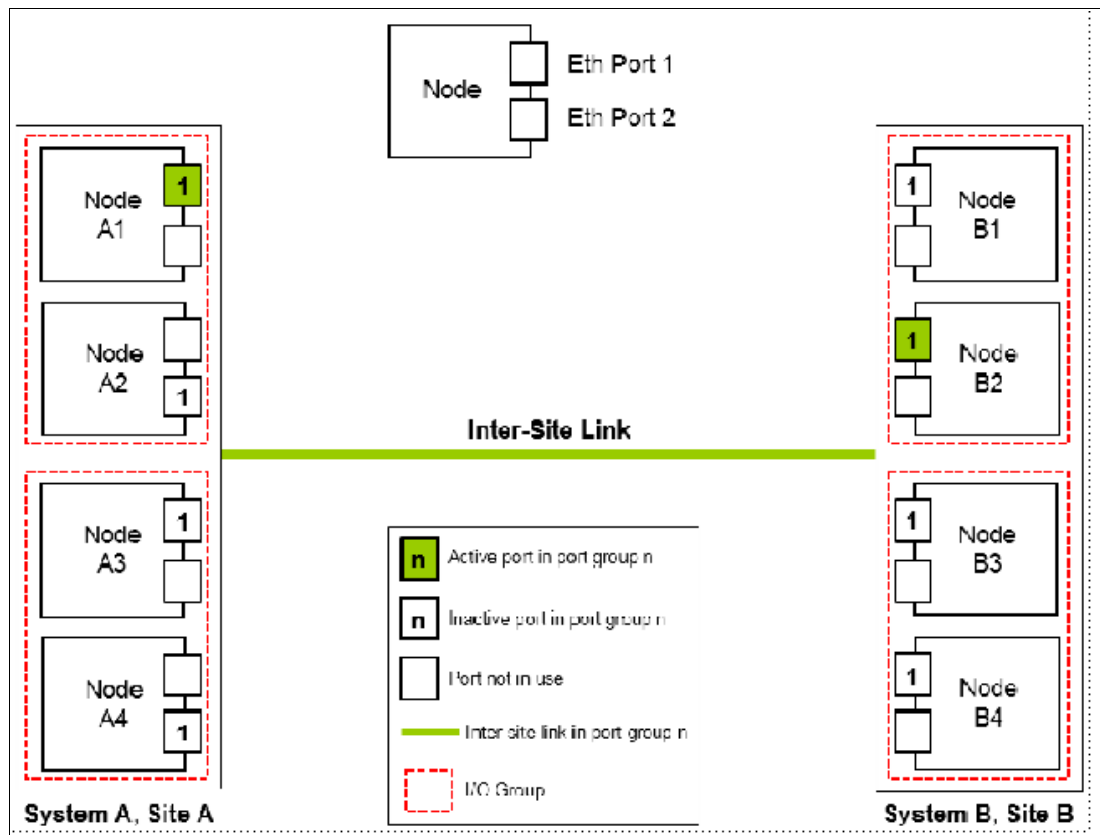

Figure 10-100 Multinode systems single inter-site link with only one RC port group
- Two 4-node systems in IP partnership over a single inter-site link (with failover ports configured), as shown in Figure 10-100 (configuration 3).
As shown in Figure 10-100 on page 777, two 4-node systems are available: